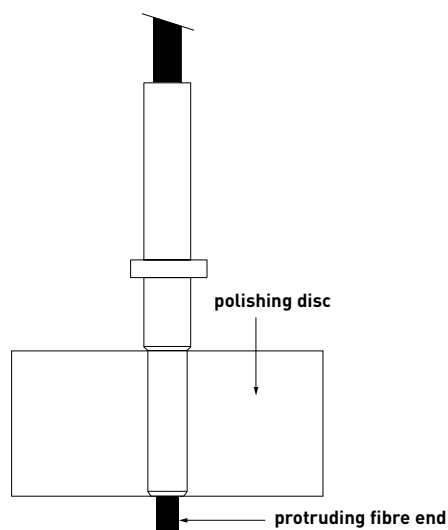

Fig. 6 - Polishing Disc with Guide for Connector Sleeve
- Insert the contact into the polishing disc (**CLDL**) as shown in Figure 6. Work on a smooth surface (such as a sheet of glass), use grade 1000 polishing paper to grind off the protruding fibre and polish it with grade 4000 polishing paper.